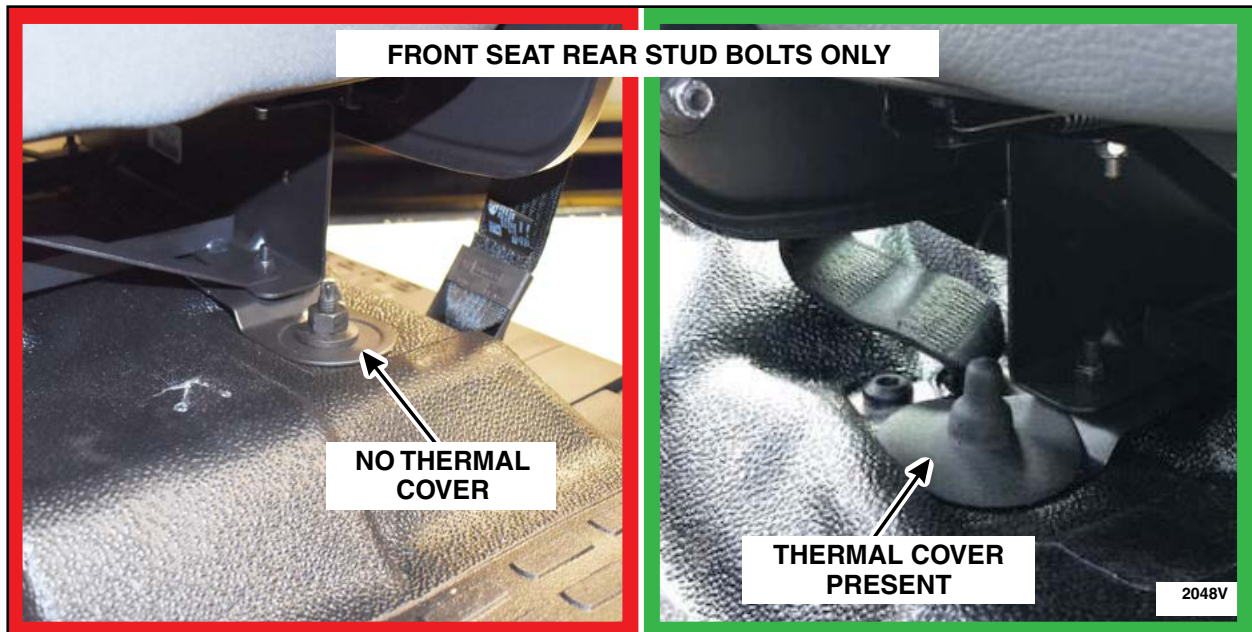

FIGURE 7
c. Covers on all bolts, on the front seat, rear bolts (4). See Figure 7.